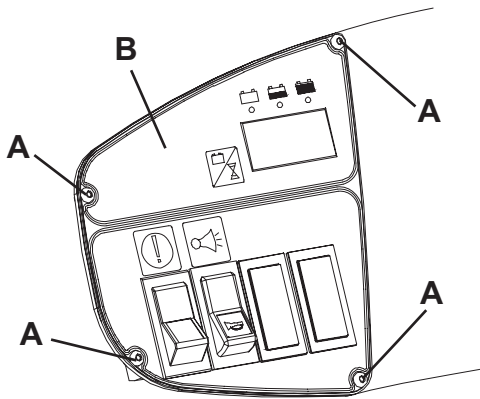

Figure 26
8. Ensure that the battery connector (25) is disconnected.
9. Disengage the support rod (37) and close the hood (22).
10. Remove the screws (A, Fig. 26) and then remove the control panel (B) with care.
12. Carefully install the control panel (B, Fig. 26) and the relevant screws (A).
13. Open the hood (22), connect the battery connector (25) and close the hood (22).